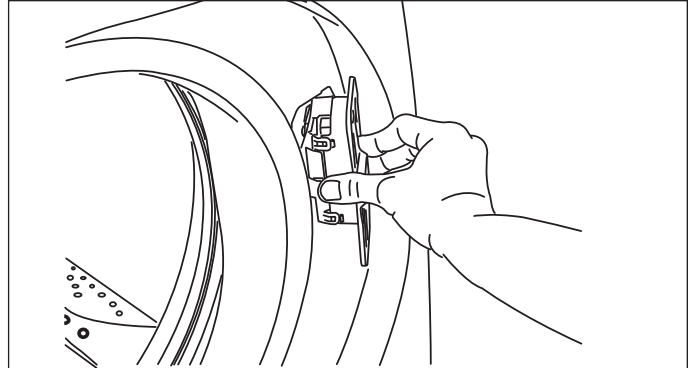

Figure 2-25.
2. Slide the lock toward the outer edge of the front panel. Pivot the lock slightly outward while slowly pulling it through opening to expose the attached harness. (See Figure 2-25)